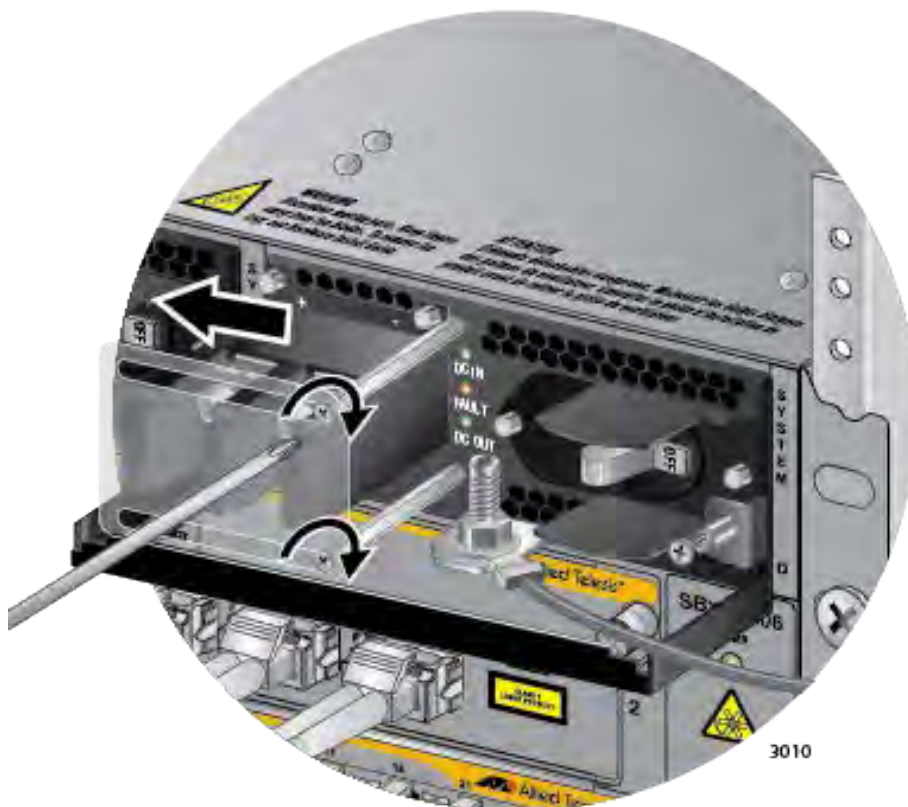

Figure 169. Closing the Plastic Cover
8. Slide the plastic cover to the left and lightly tighten the two screws to secure it in place. Refer to Figure 169 on page 272.